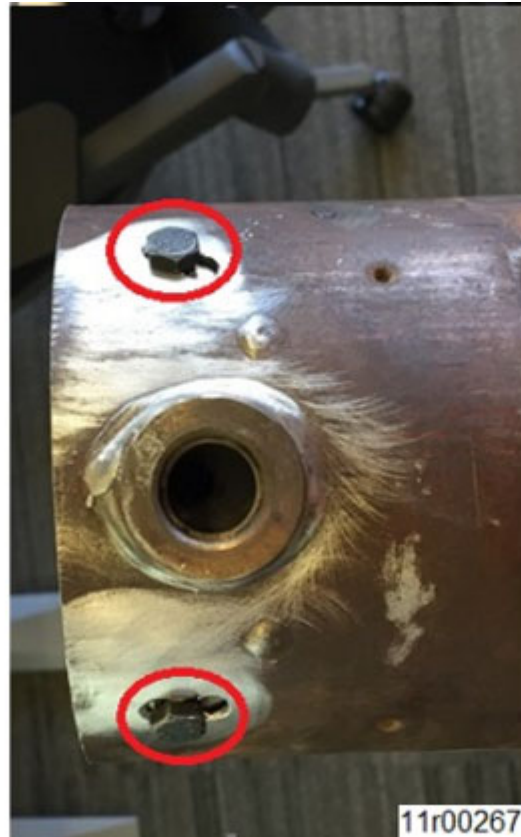

Figure 1, Two Outlet Nox Sensor Bolt-In Water Shield Bolts in the Exhaust Pipe.
- Inspect for spot welds or two bolts installed in the tailpipe near the outlet NOx sensor. See Figure 1 below.
2016-6-21	Added assessment section to see if a unit already has an outlet NOx sensor bolt-in water shield installed. Added Figure 1.
2019-5-9	Added "Inspect for spot welds or two bolts installed in the tailpipe near the outlet NOx sensor. See Figure 1 below."